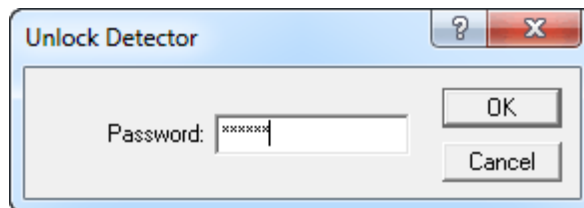
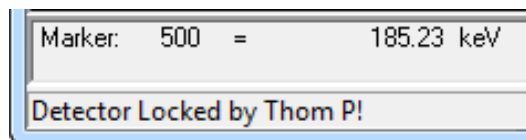

Fig. 73. Unlocking a Detector.
Fig. 74. Name of Detector Owner.
- **Accessing a locked detector** — If a Detector is currently locked, selecting **Lock/Unlock** will display the Unlock Detector dialog shown in (Fig. 73) and will display the name of the Owner on the Supplemental Information Line, as shown in Fig. 74. You must enter the correct password to unlock the Detector.